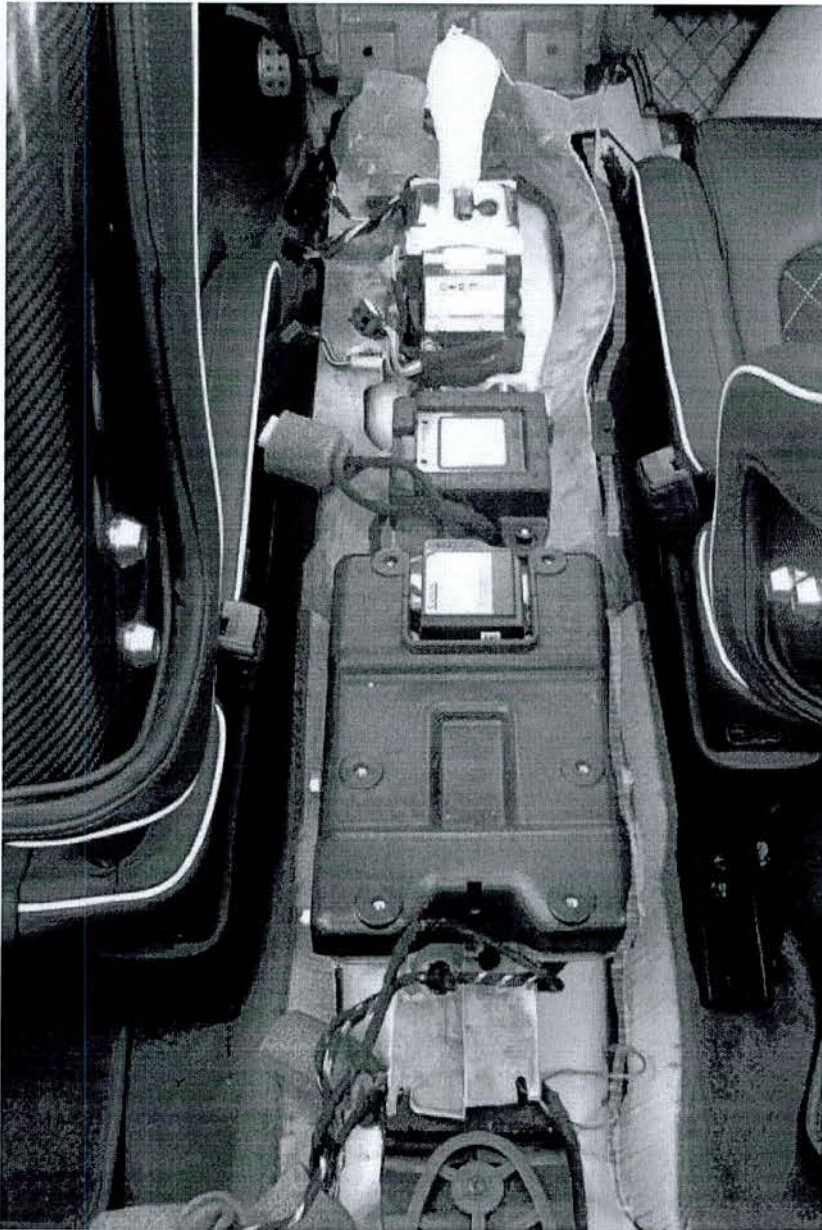

Figure 16
30. Route the new harness down the right hand side following the centre console main harness (see Figure 16)